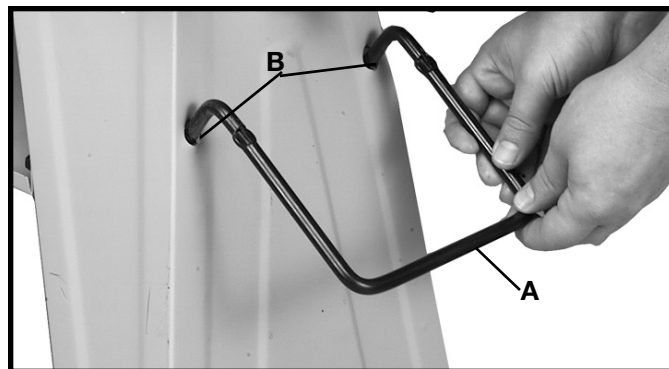

Fig. 5
Insert ends of handle (A) Fig. 5, into the two holes (B) on the right leg and fasten in place using the two cotter pins supplied.